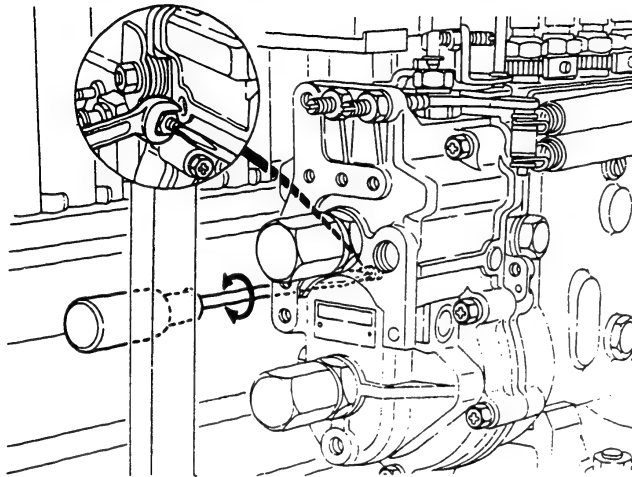

Fig. 151 Adjusting the full-load setting bolt
- Adjust the full-load setting bolt (173) so that the control rack position is R_f mm when the pump speed is N_f rpm. (Figs 151 and 152)